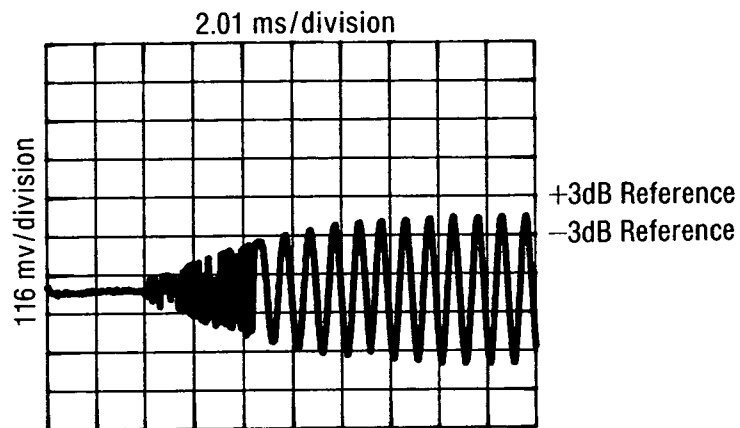

Figure 4-4. Amplitude Recovery Measurement Waveform
The amplitude recovery time is tested using the same measurement setup. The ± 3 dB amplitude points of the IF signal are calibrated on the oscilloscope display and the amplitude recovery time is tested to ensure that the IF level is within ± 3 dB of the final level (see Figure 4-4). The amplitude recovery time is only specified for frequency changes within the same frequency resolution range.
14. Measure the amplitude recovery time. The measurement is the time from the left graticule of the display to the last time the IF signal amplitude is outside of the reference points noted in step 13. If necessary, adjust the oscilloscope triggering to obtain a display similar to that shown in Figure 4-4.